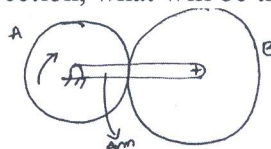

Fig. Q4 (b)
- b. Two spur gears A and B of an epicyclic gear train is shown in below Fig. Q4 (b) have 24 and 30 teeth respectively. The arm rotates at 100 rpm clockwise direction. Find the speed of gear box its own axis where gear axis fixed. If in set of being fixed the wheel A rotates at 200 rpm in counter clockwise direction, what will be the speed of B. (10 Marks)